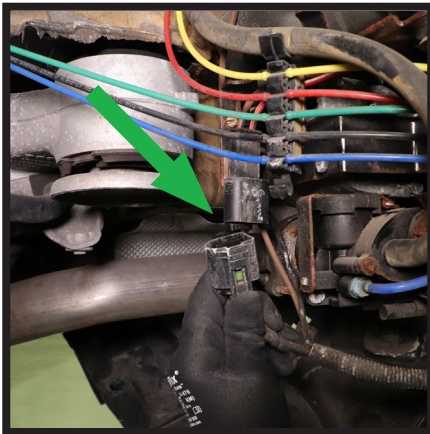

FIGURE 7
5. DISCONNECT THE THREE (3) ELECTRICAL CONNECTORS FROM THE VALVE BLOCK AND COMPRESSOR ASSEMBLY. (FIGURES 7, 8, 9)